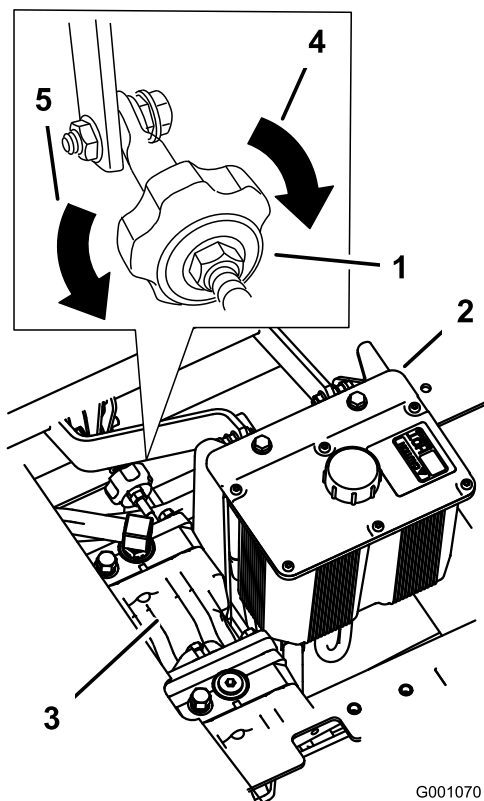

Figure 95
2. Adjust the pump rod length by rotating the knob, in the appropriate direction, until the wheel is still or slightly creeping in reverse (Figure 95).